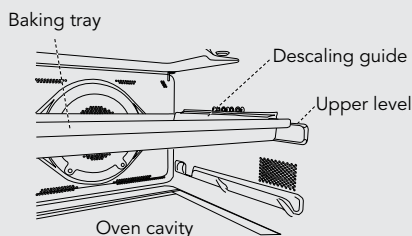

Figure 2
3. Place baking tray on upper level. Place descaling guide on the right side edge of baking tray as shown in Figure 1. Push down the right side edge of descaling guide to insert the projection between the wall and the baking tray as shown in Figure 2. Check that the edge of the descaling guide is below all steam outlets/screw heads as shown in Figure 3.